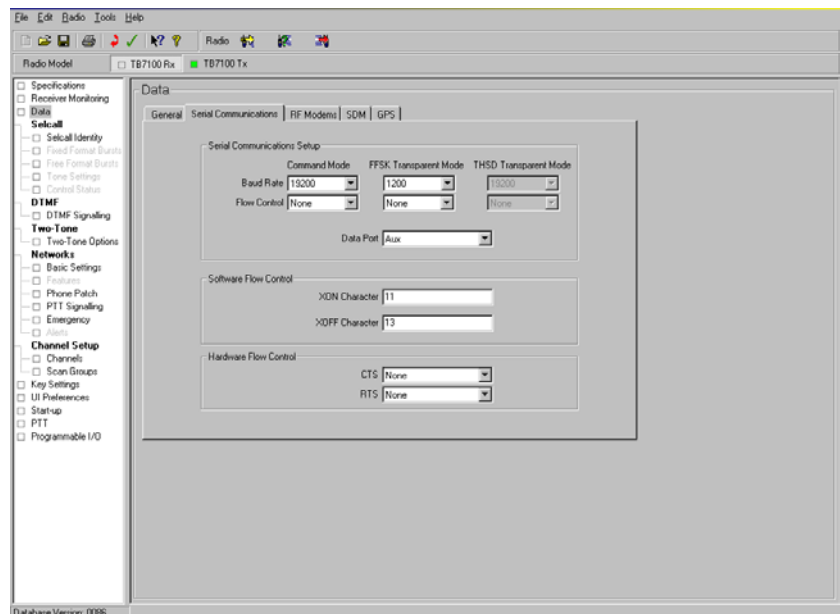

Figure 4
- Under Data>Serial Communications set the following parameters as in **figure 4**: